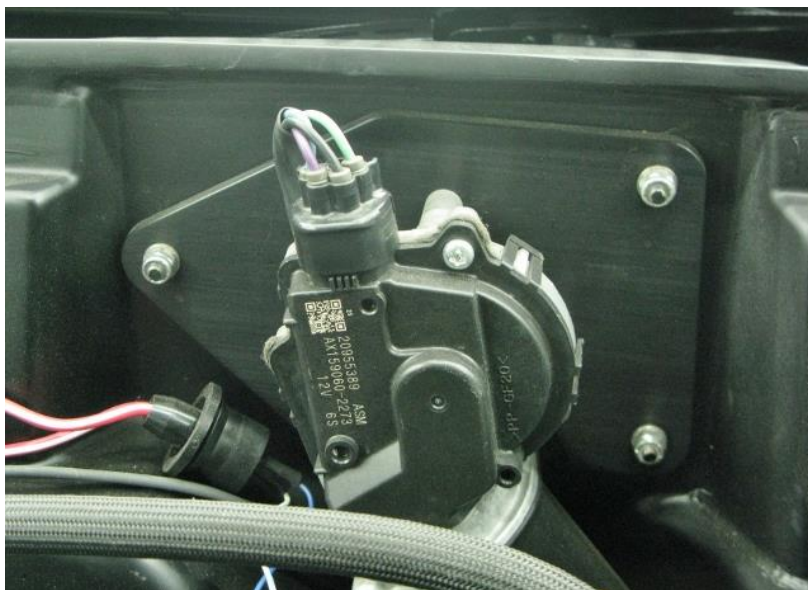

Figure 9 – Attach Wiper Motor to Firewall
12. Mount the new wiper motor assembly to the firewall stud plate using 3 of the provided 10-24 Nylock flange nuts (Figure 9).